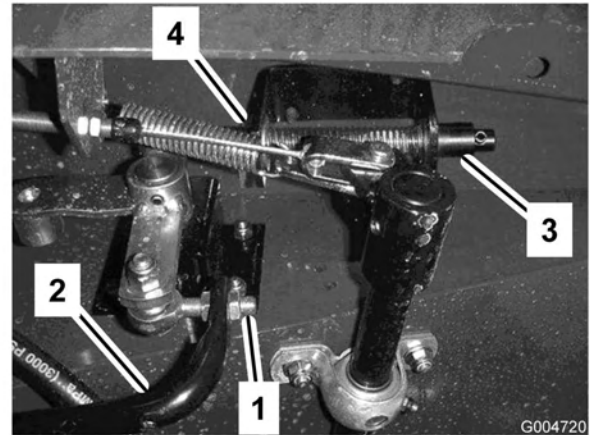

Figure 67
3. Loosen the jam nuts on the rod end and adjust the traction rod length (Figure 67) so that the pedal contacts the pedal stop when the pump lever reaches full stroke. Secure the jam nuts.
3. Fill the reservoir (Figure 67) with approximately 8 gallons (30 l) of hydraulic fluid; refer to Checking the Hydraulic Fluid.